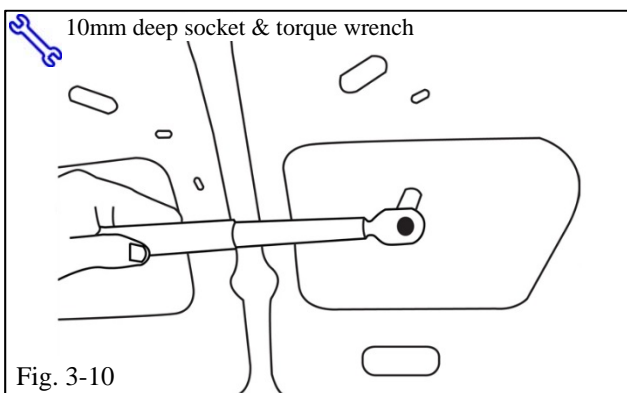

Fig. 3-10
- (q) Torque all hardware to 6 N-m (53 in-lbf), starting with the two inner studs working out (Fig. 3-10).